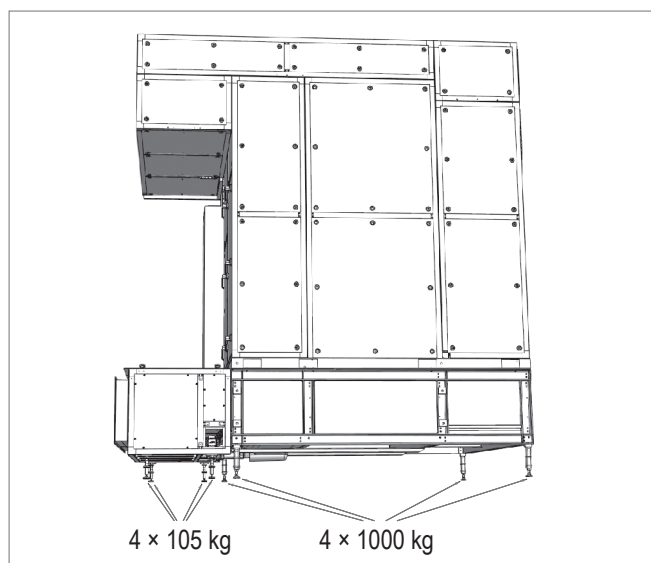

Fig. C1: Load distribution
- Ensure that the installation surface is of sufficient load-bearing capacity. The weight of the unit is distributed over the adjustable feet (see Fig. C1).